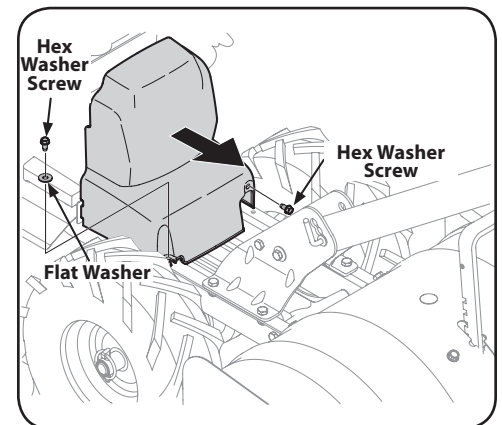

Figure 5-3
2. Remove the belt cover as seen in Figure 5-3, by first removing the two 1/4-20 hex washer screws and one flat washer. Lift the belt cover up and away from the tiller and set in a safe location until reinstallation.